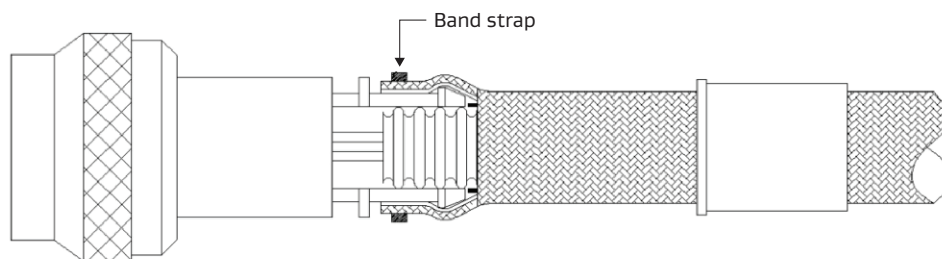

Figure 13: Sliding the band strap
9. Slide the band strap to the approximate location on the outer braided jacket (Figure 13). Using the banding tool, band down the strap.